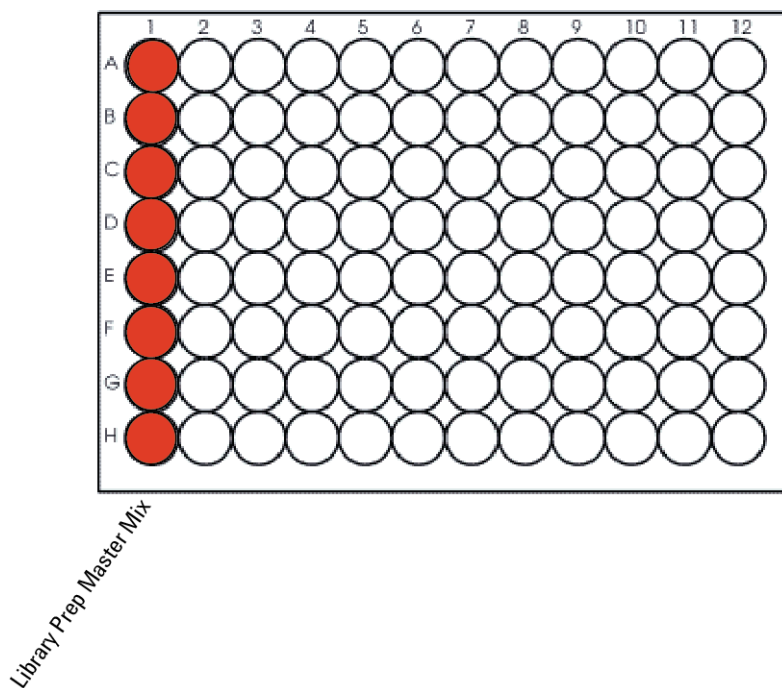

Figure 3 Configuration of the master mix source plate for 01 Tn_QXT_ILM_v1.0.pro
- 7 Prepare the Library Prep master mix source plate using a Nunc DeepWell plate, containing the mixture from step 6. Add the volume indicated in Table 10 to all wells of column 1 of the Nunc DeepWell plate. Keep the master mix on ice during the aliquoting steps. The final configuration of the master mix source plate is shown in Figure 3.